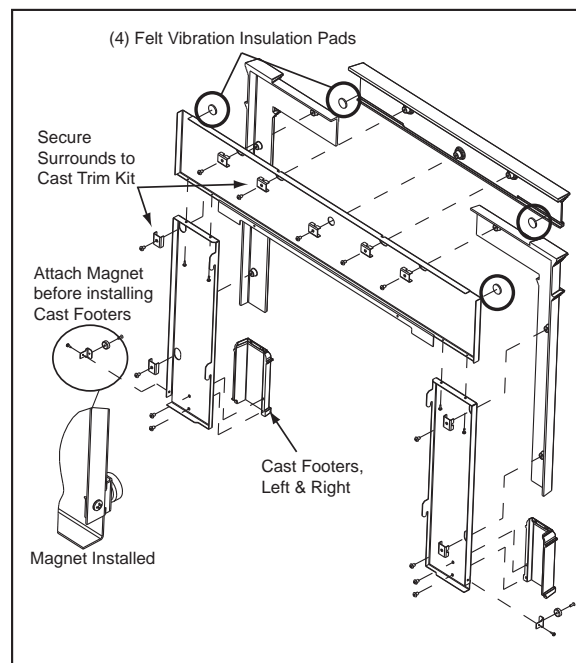

Figure 32.1
**Included in Surround Kit:** (2) side surrounds, left and right; (1) surround top; (1) fastener package.
**Included in Cast Trim Kit:** (2) cast trim legs, left and right; (1) cast trim header; (2) cast trim footers, left and right
3. Using a 102mm to 152mm long Phillips head screwdriver to attach the side surrounds to the top surround using (2) #8 sheet metal screws on each side provided with the kit.
4. Place the peel and stick round felt vibration insulation pads on the front side in each corner of the top metal piece and on the back side in each corner of the top cast piece. **Figure 32.1.**